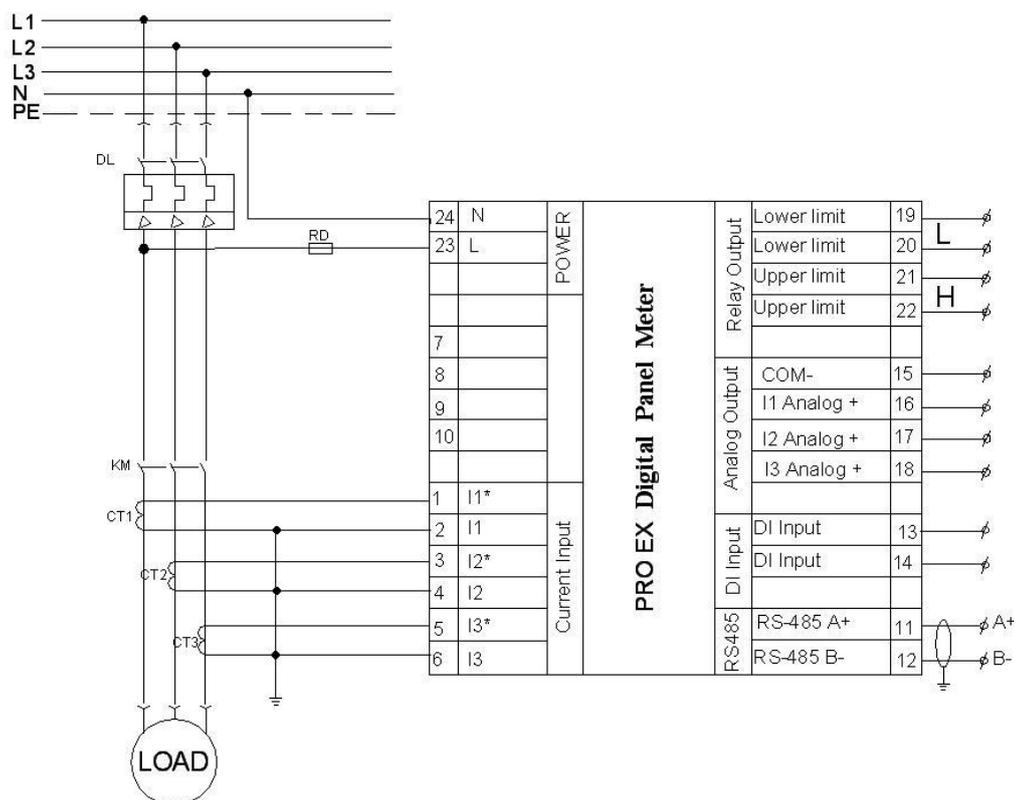

Fig. 4 PRO EX I53 Wiring Diagram
1.4.11.5 Analog Output Setting (Details of output ports, please see Fig. 4)